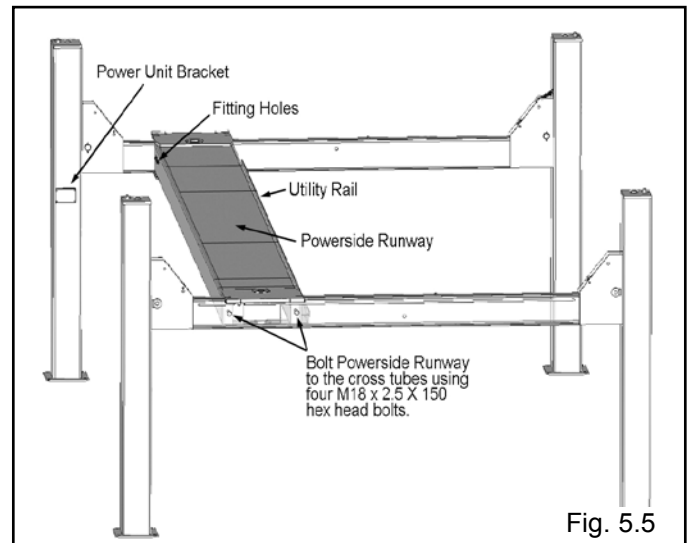

Fig. 5.5
4. Position the POWERSIDE RUNWAY on top of the Cross Tubes with the UTILITY RAIL towards the center. The fitting holes located at the side of the Powerside Runway should be adjacent the POWER UNIT COLUMN. Align the holes in the Runway with the holes on the Cross Tubes and bolt together using four M18 x 2.5 hex bolts and washers. (See Fig. 5.5)